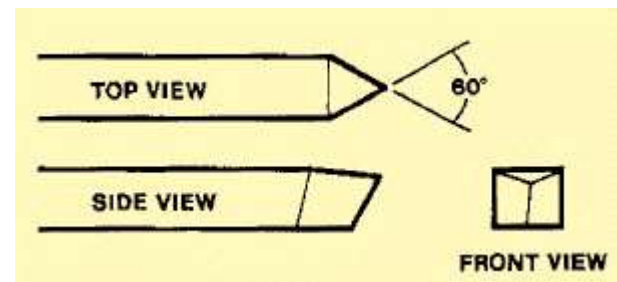

Figure 7-7. Thread cutting tool bit.
**Thread-Cutting Tool Bits:** Are ground to cut the type and style of threads desired. Side and front clearances must be ground, plus the special point shape for the type of thread desired. Thread-cutting tool bits can be ground for standard 60° thread forms or for square, Acme, or special threads. Thread-cutting forms are discussed in greater detail later in this chapter. (Figure 7-7).